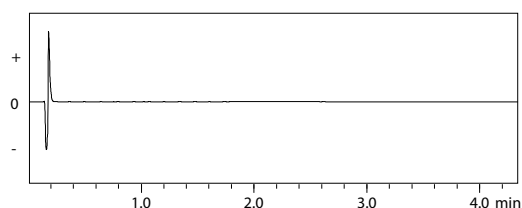

Fig. 5 Example of a Negative Peak after Background Correction
2. A background correction was performed using the data from the solvent extraction/background correction samples (Fig. 5).
^{*3} This is set if a negative peak appears as shown in Fig. 5 when a background correction is performed because of a deviation in solvent peak position between the background correction sample and the calibration curve sample.